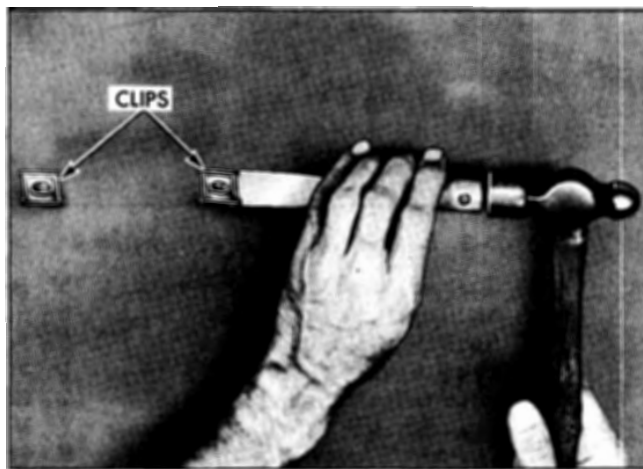

Fig. 15-5 Removing Clip
1. Insert sharp edge of flat-bladed tool, such as a putty knife, under edge of clip and hammer tool until base of clip is cut approximately half-way through (Fig. 15-5) then disengage clip from hole.